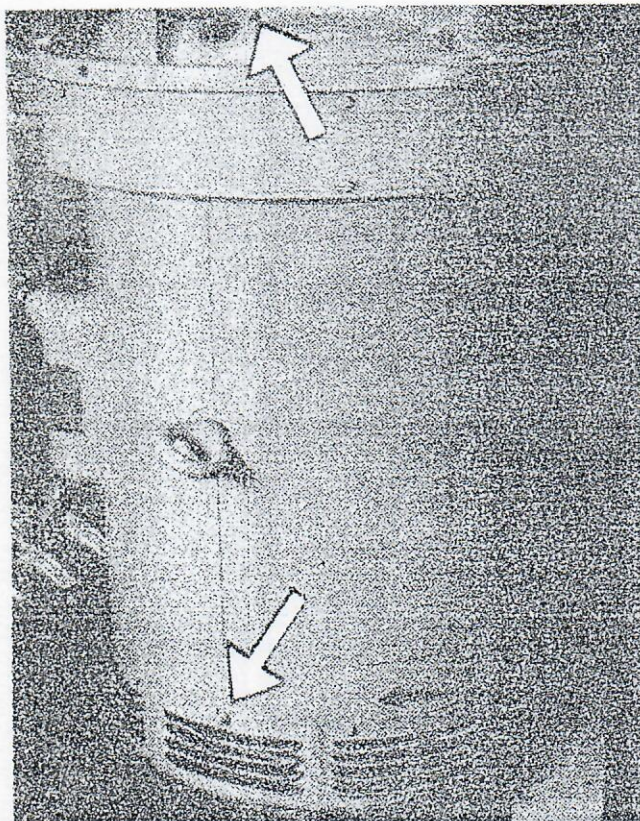

Fig. 19. Motor bearing lubrication nipples.
44. Lubricate the motor bearings - see Fig. 19. A certain amount of grease must always be pressed (pumped) into each bearing (in 3-4 sessions, see below). See Table 3 and the motor dataplate for information about the required amount.
52. Lubricate the motor bearing of all sizes. See Fig. 19 and Table 3.